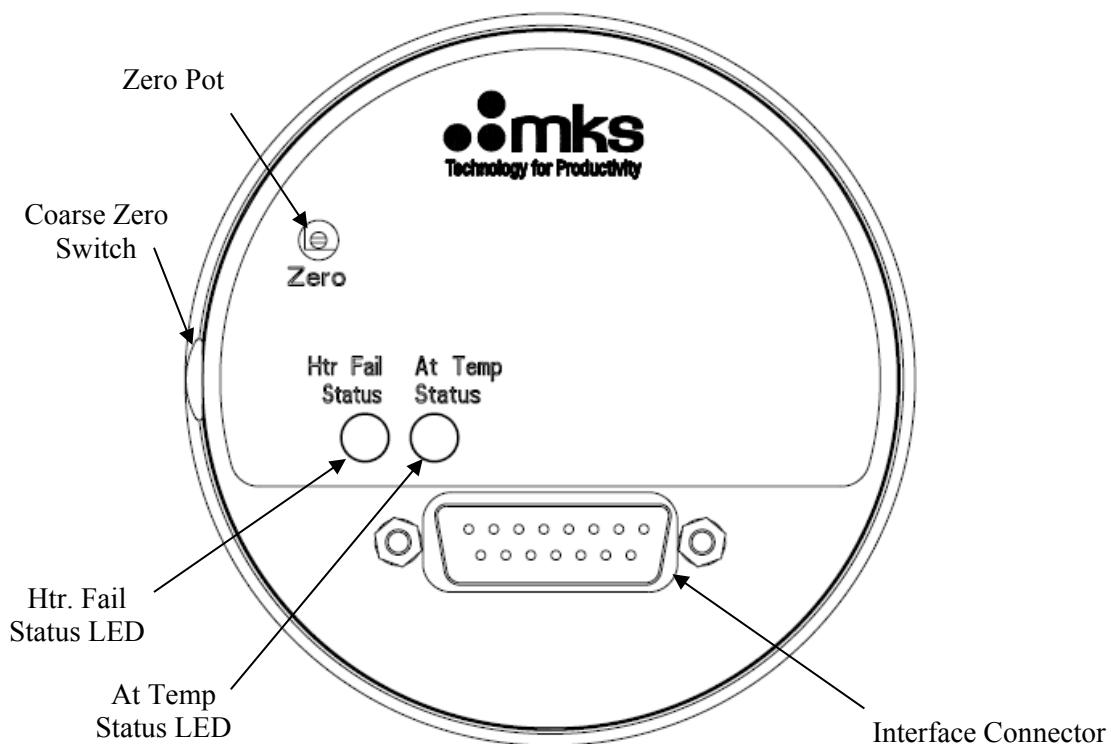
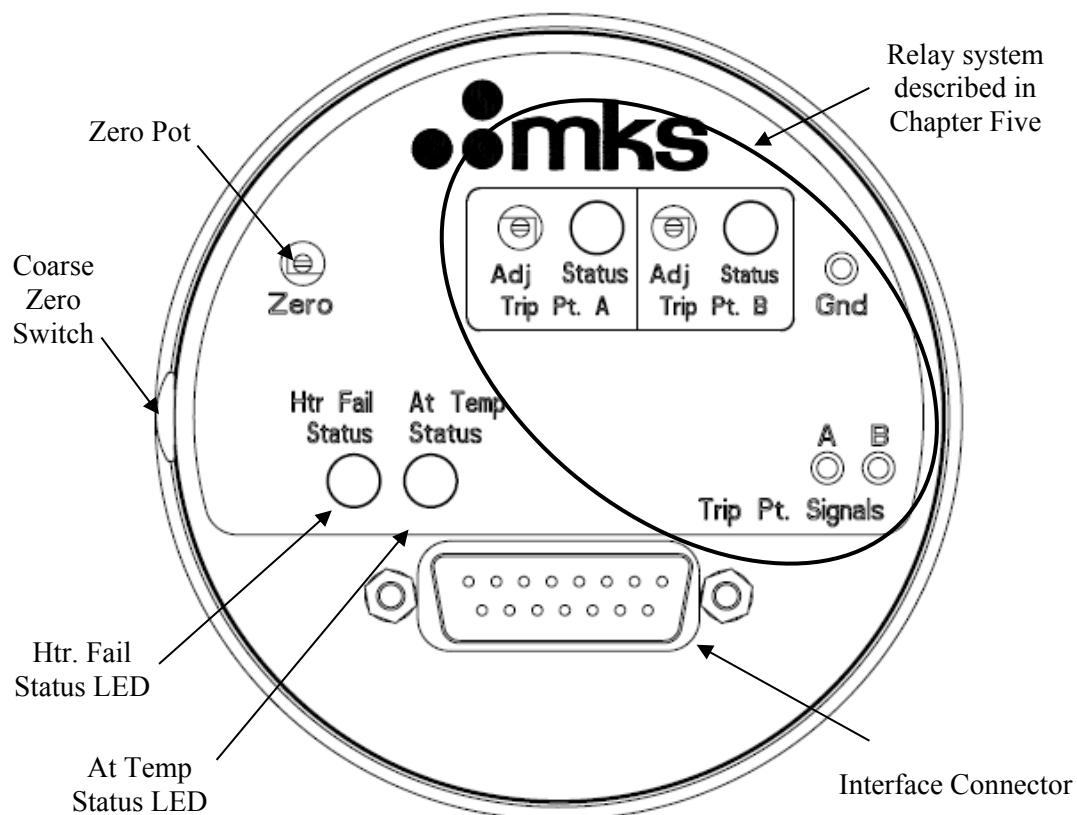

Figure 2: Top View of the Type 631C Transducer Without Optional Relay System
Figure 3: Top View of the Type 631C Transducer With Optional Relay System
The 631C transducer is powered by a single ± 15 VDC power supply for both the electronics and heater. The cable connection to the 631C transducer via the Interface connector is shown in Figure 2: Top View of the Type 631C Transducer, page 30. Refer to Table 6: Pinout of the Interface Connector (J1), page 34, for the complete list of pin assignments for the Interface connector.
The 631C transducer has two adjustments for zero, a potentiometer and a coarse zero switch. The location of both are the same for the 631C with and without the trip point relay system and are shown in Figure 2: Top View of the Type 631C Transducer Without Optional Relay System and Figure 3: Top View of the Type 631C Transducer With Optional Relay System, pages 30 and 31, respectively.
The top of the 631C transducer without the optional relay system has two LEDs to indicate the status of the sensor heater. At power up, the “At Temp Status” LED will be yellow. Once the sensor temperature reaches the normal operating temperature, this LED will turn green. The “Htr Fail Status” LED is off unless the heater unit fails. Should the heater unit fail, “Htr Fail Status” LED will illuminate red and the “At Temp Status” LED will turn yellow. A “heater alarm relay” will become de-energized and change state providing a remote indication of a heater circuit failure using dedicated pins in the interface connector. Refer to Figure 2: Top View of the Type 631C Transducer Without Optional Relay System, page 30, to identify the location of the “At Temp Status” and “Htr Fail Status” LEDs. Refer to Heater Status LEDs and Heater Alarm Relay, page 40, for a detailed discussion of the operation of the heating system LEDs and relays.
The transducer with the optional trip point relay system has the same functionality as the transducer without the relay system described above. The relay system brings an additional two LEDs, two adjustment POTs and three test plugs to the top of the transducer. (Refer to Figure 3: Top View of the Type 631C Transducer With Optional Relay System, below, showing the location of the trip point relay system components.) The trip point status LEDs glow green when the corresponding relay is energized and are off when the corresponding relay is de-energized, depending on the relationship between the pressure output and the trip point value. (Refer to Chapter Five: Optional Relay System, page 43 for a complete description of the relay system.)
The Interface connector (J1) is a 15-pin male type D-subminiature connector. Refer to Figure 2: Top View of the Type 631C Transducer, page 30, for the location of the Interface connector for the 631C without the optional relay system. Refer to Figure 3: Top View of the Type 631C Transducer With Optional Relay System, page 31, for the location of the Interface connector for the 631C without the optional relay system. It contains the pins to connect the 631C unit to a power supply or power supply/readout. Table 6 specifies the pinout of the Interface connector.
4. Adjust the ZERO potentiometer with a small screwdriver until the readout displays zero (0.000). Typically, the ZERO potentiometer provides ample control under normal conditions. However, if the ZERO potentiometer fails to provide sufficient adjustment, additional zero range capability is available with the COARSE ZERO switch, located on the side of the unit (refer to Figure 2: Top View of the Type 631C Transducer, page 30, or Figure 3: Top View of the Type 631C Transducer With Optional Relay System, page 31, for location of the ZERO potentiometer and coarse zero switch.) Refer to *How To Adjust the Coarse Zero Switch*, page 39, for more information.